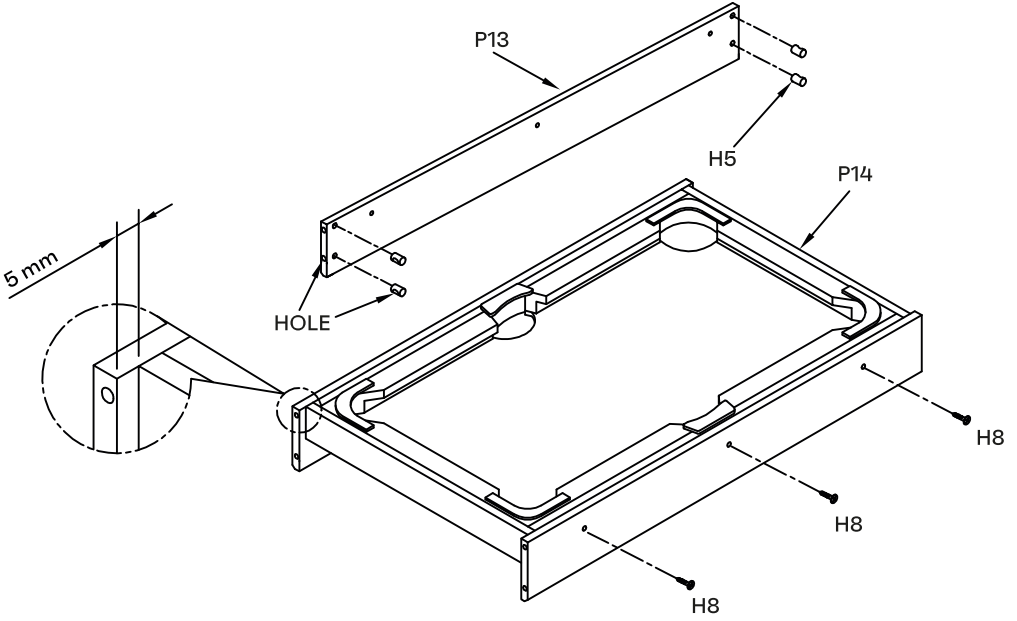

FIGURE 3
10. Insert the nut H5 into the hole of the pool side panel P13 as shown in figure 3.
11. Attach the pool playing field P14 to the pool side panel with H8 as shown in figure 3.